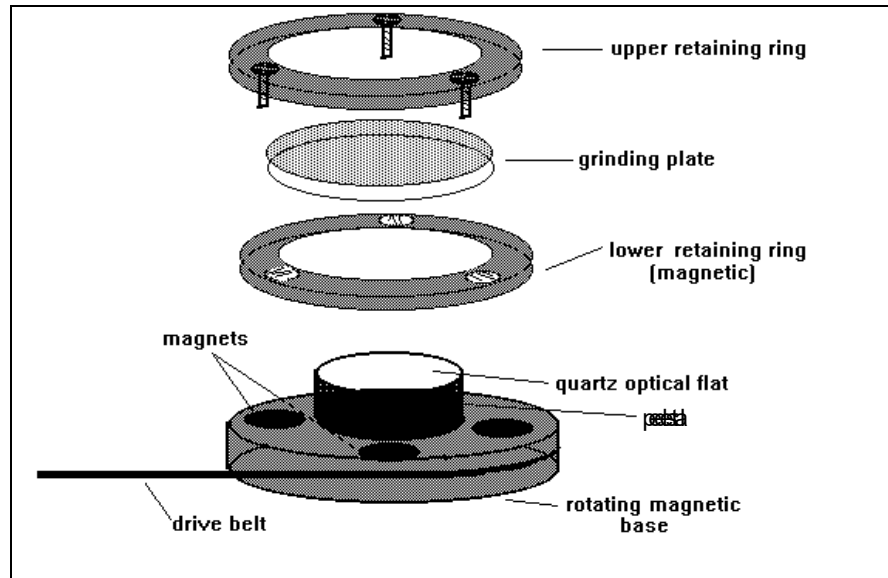

Figure 2-2. Pedestal/grinding plate assembly.
6. Assemble grinding plate system as described below. See Figure 2-2.
**7. Assemble optical attachment if supplied. — See Figure 2-2.**
- e. Screw the chrome post onto the flat face of the horizontal bar with the Allen head screw provided. Remove the cap screw from the top of the chrome post. *Note: The chrome post/ horizontal bar may have been shipped as one assembly. If so, then just install the horizontal bar as in (4) with the chrome post oriented to the left of the mounting block.*